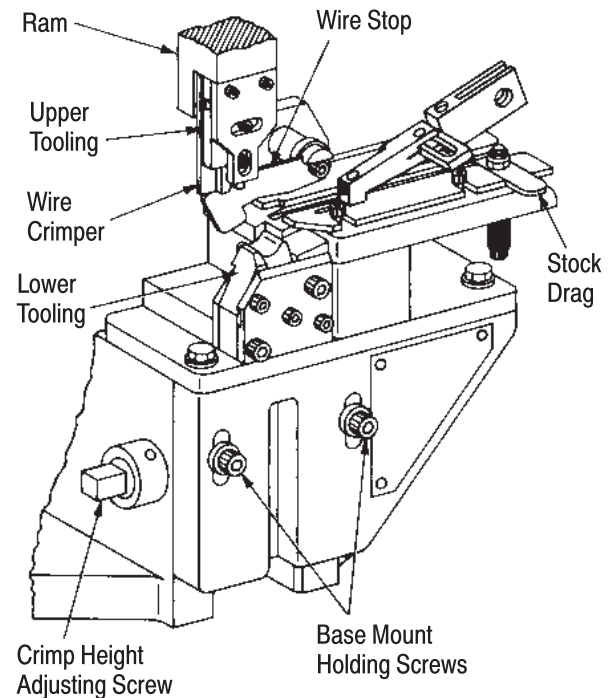

Figure 3
2. Loosen the two base mount holding screws and turn the crimp height adjusting screw down until the base mount is at its lowest point. See Figure 3.
4. Pull the ram toward you and place the wire crimper in front of the wire stop. See Figure 3.
3. Loosen the two base mount holding screws. See Figure 3.
6. Turn the crimp height adjusting screw up, until the crimpers make an impression on the paper, then stop. See Figure 3.
5. Push down on the stock drag handle and feed the terminal strip between the strip guides. See Figure 3.